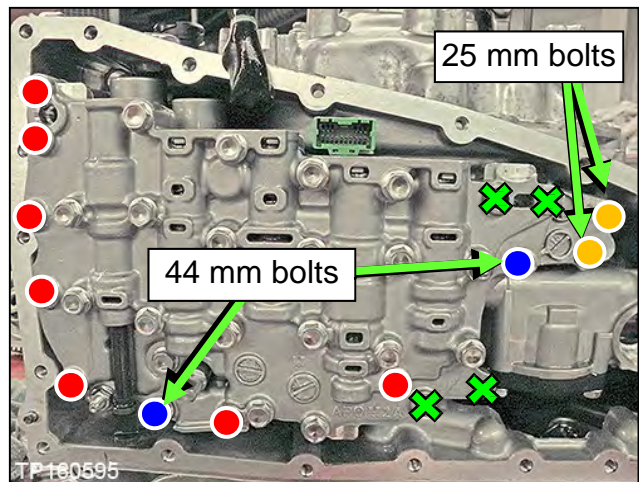
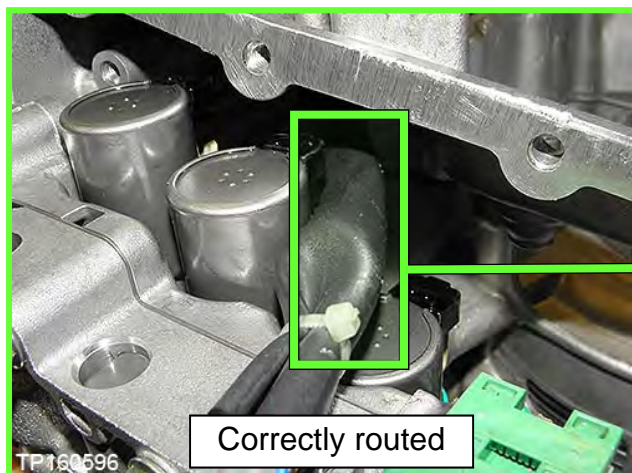
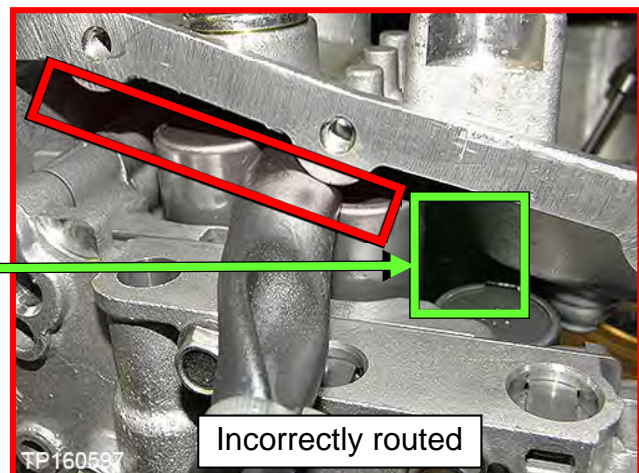

Figure 163
Figure 164
Figure 165
120. Install the Control Valve with eleven (11) mounting bolts (Figure 163).
- Leave four (4) ✘ bolt holes empty at this step.
- Make sure the wiring harness is not pinched (see Figure 164 and Figure 165 for correct routing).